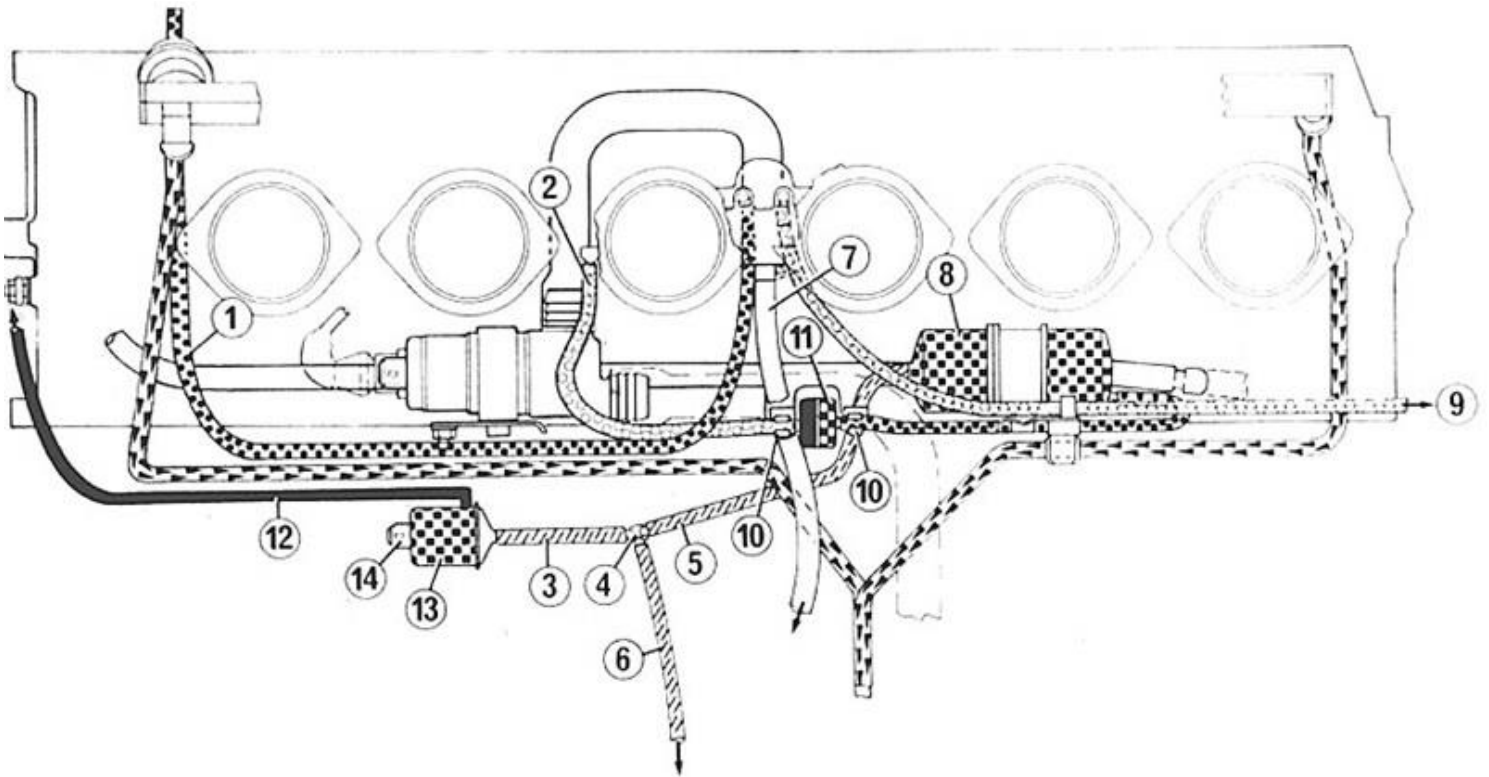

Figure 24
23. For the S38B36, Install 4X new mounting clips on the mounting rail. With clips in place measure existing line lengths of #2, #3, #5, and #6 and using razor or other cutting tool cut lines for replacement. See Figure 24.
24. Install lines with one-way valve #11, vacuum reservoir #8, and vacuum “T” #4 assembled on to mounting rail and clips (S38B36 only). Add abrasion protection where needed and be sure to note orientation of one-way valve as well as routing. You want to ensure any bends are gradual to avoid kinking. See Figure 24 (prior page) and Figure 25 (S38B36 shown).